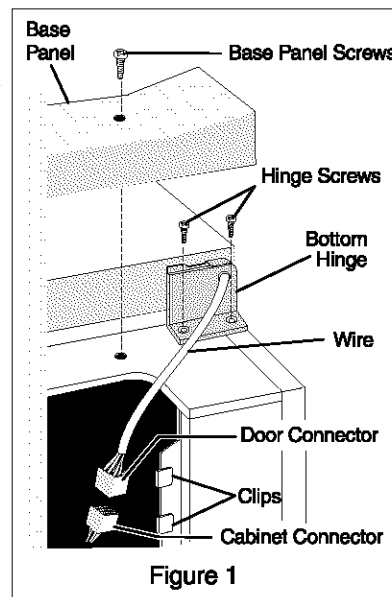

Figure 1
2. Remove two base screws and base panel. Remove wire from clips on bottom of cabinet. (Figure 1)
3. Unplug connector, if required, by holding the cabinet connector in place, and pulling door connector out. (Figure 1)
4. Remove bottom hinge screws. (Figure 1)
Temp Alarm (audible only or audible with warning light - see Figure 1)